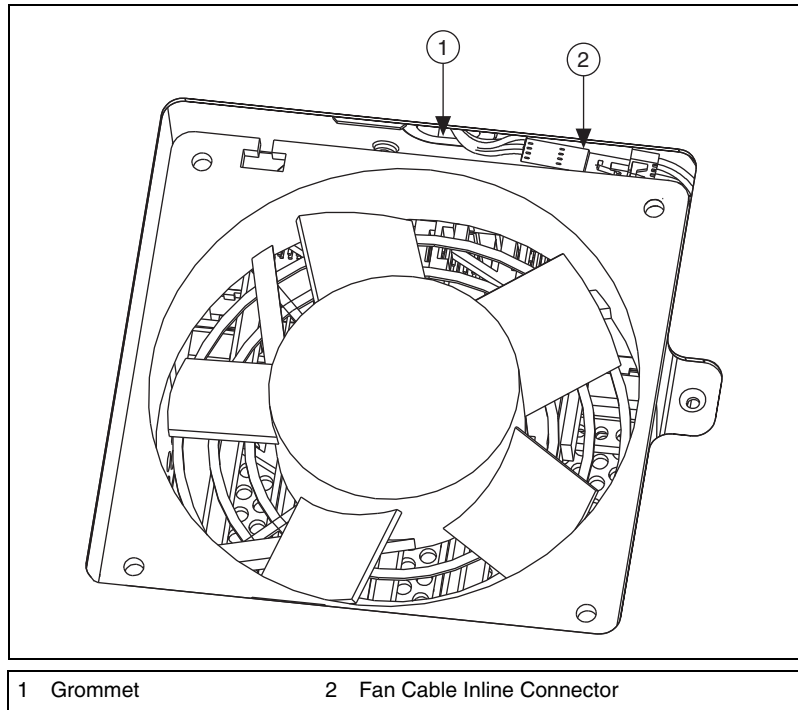

Figure 6. Fan Cable Inline Connector
5. Disconnect the fan cable from the inline connector protruding through the grommet in the fan bracket. The connector is shown in Figure 6.